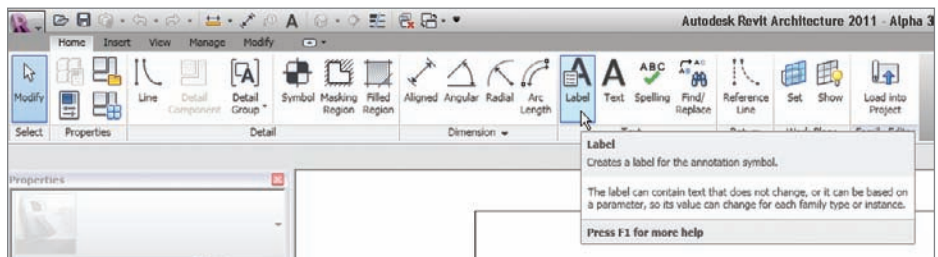

FIGURE 14.27 Selecting Label from the Create tab
4. On the Text panel of the Home tab, click Label, as shown in Figure 14.27.